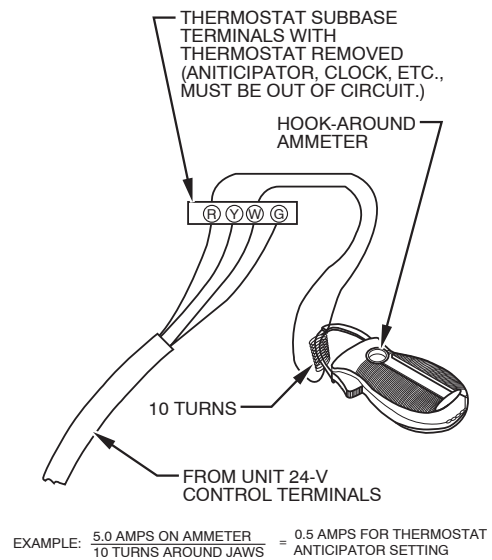

Fig. 56 - Amp. Draw Check with Ammeter
- c. Connect an amp. meter as shown in Fig. 56 across the R and W subbase terminals or R and W wires at wall.